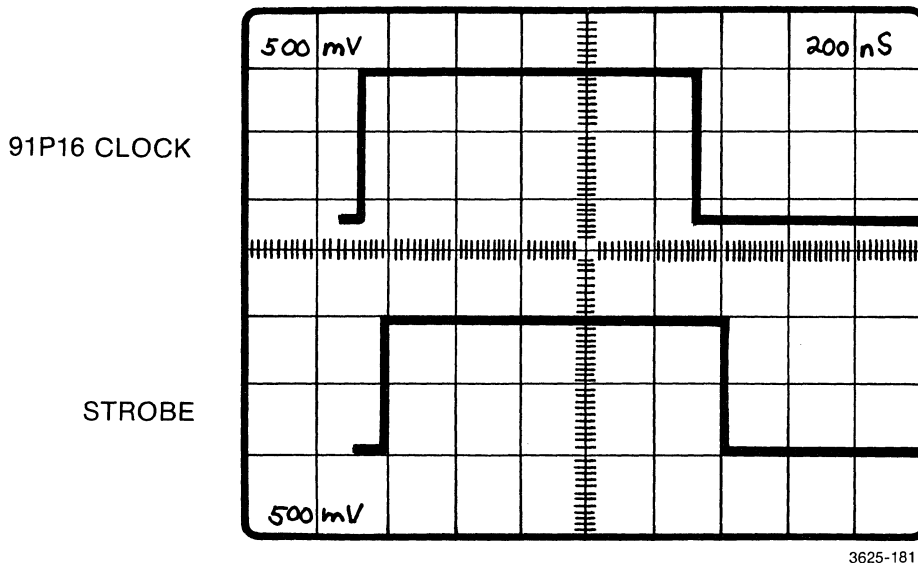

Figure 5-61. 91P16 strobe clock adjustment.
9. Turn on the oscilloscope and press the START PAT GEN key on the DAS. Adjust the oscilloscope to show a display like the one shown in Figure 5-61.